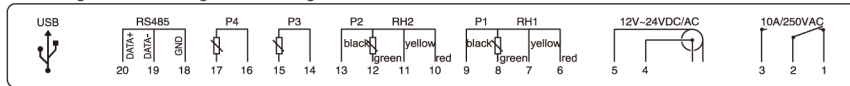

Figure 1 Wiring Terminal Diagram
1.4.1 Wiring Terminal Diagram, see Figure 1